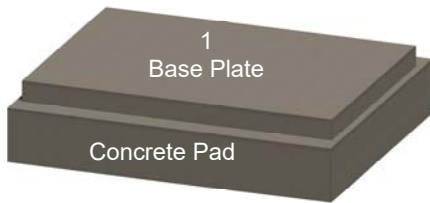

Figure 7. Base Plate on Pad
B. If installing the unit at the pad level, align and set the Base Plate directly on the footing, ensuring it is plumb and level. See Figure 7.